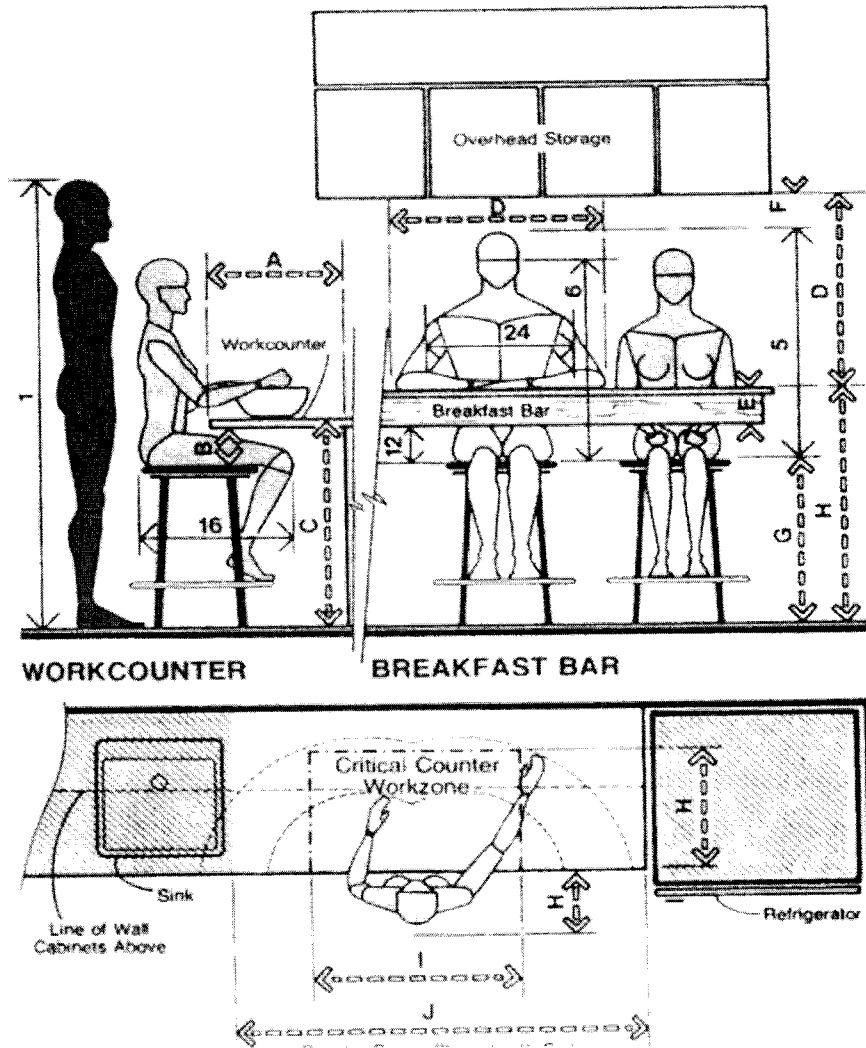

Figure 1: For Question # 6.
6. According to the data in Table 1, please suggest the appropriate distances of C, D and G which are shown in Figure 1. (20 points)